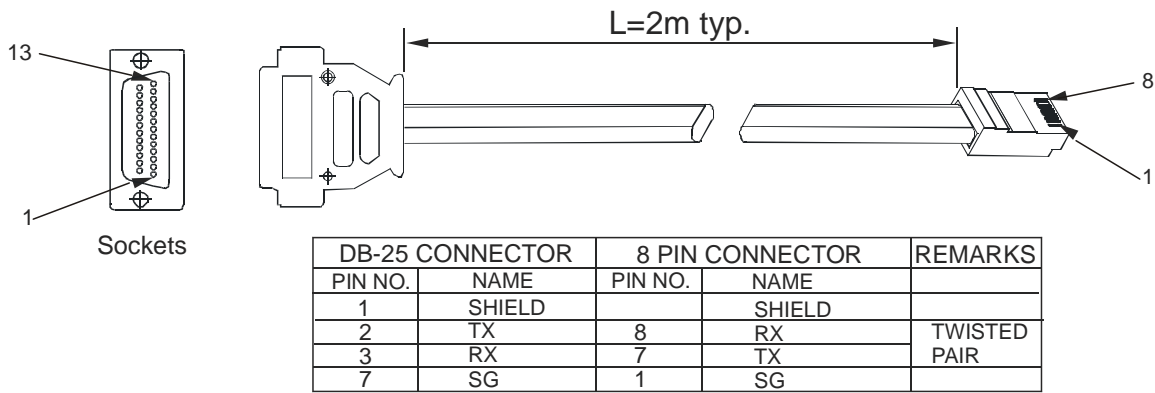

Fig.7-2: RS232 cable with DB25 connector (P/N: GEN/232-25)
2. Connect rear panel IN connector to the controller RS232 or RS485 port using a suitable shielded cable. Refer to Figures 7-2, 7-3 and 7-4 for available RS232 and RS485 cables.